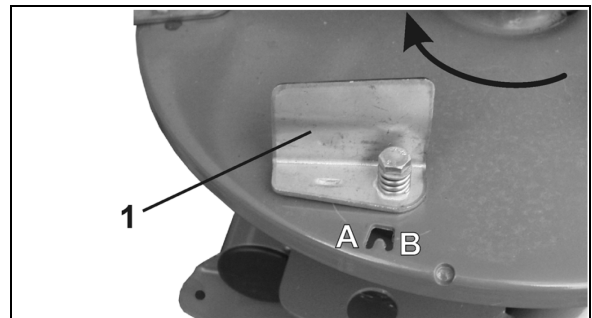
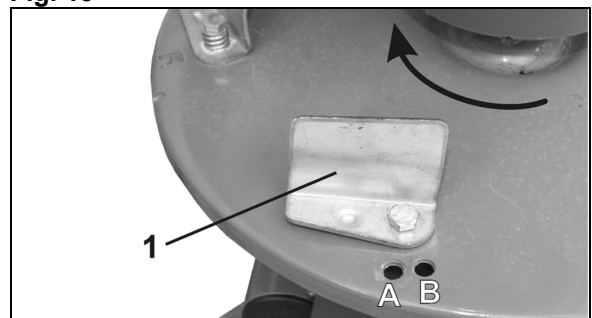

Fig. 13
Fig. 14
The spreading vanes allow the setting in two positions (Fig. 13, Fig. 14).
- Three spreading vanes with pressure spring for manual adjustment (Fig. 13/1).
1. Three spreading vanes with adjustment by loosening the screw joint (Fig. 14/1).